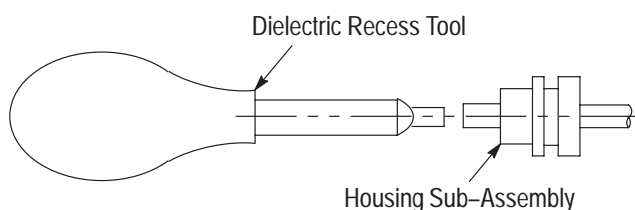

Figure 5
2. Place the dielectric recess tool on the dielectric and push to recess the dielectric within the cable outer conductor as shown in Figure 5.